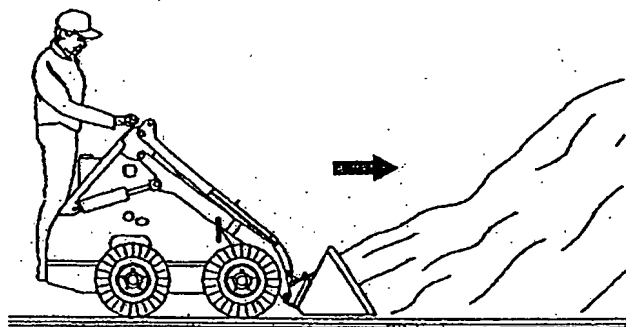

FIGURE 12
1. Approach the pile with the lift arms fully down and bucket cutting edge just skimming the top of the ground as in Figure 12.